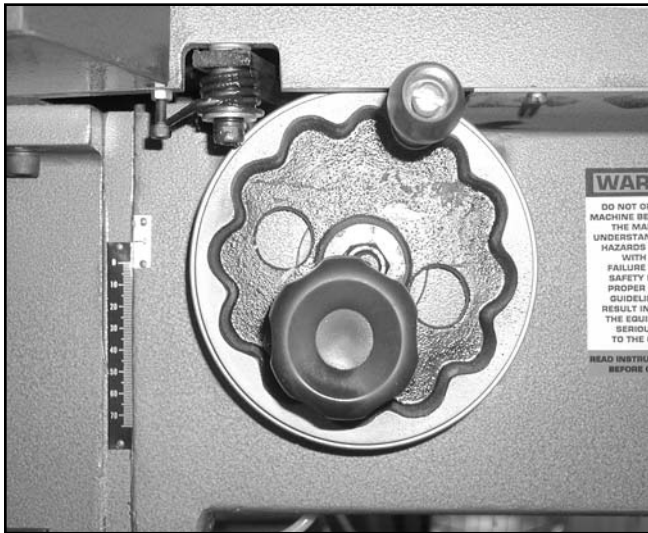

Figure 17. Handwheel, with height scale to left.
2. Turn the handwheel to decrease or increase the spindle base height from the table as shown in **Figure 17**.